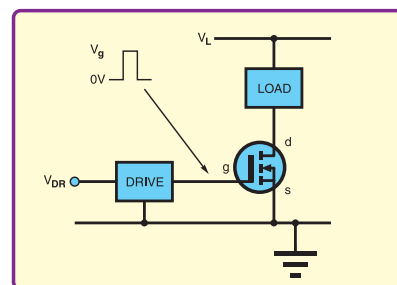

Fig.4. Low-side drive using an *N*-channel MOSFET
*N*-channel low-side switching is illustrated in Fig.4. The drive circuit has to switch the gate between 0V (off) and  $V_g$  (on). The power supply voltage for the driver ( $V_{DR}$ ) will usually be greater than or equal to  $V_g$ , but may be much less than the load power supply voltage ( $V_L$ ). The value of  $V_g$  required to fully turn on the MOSFET is typically 10V to 15V, but devices designed to switch at lower voltages are available.